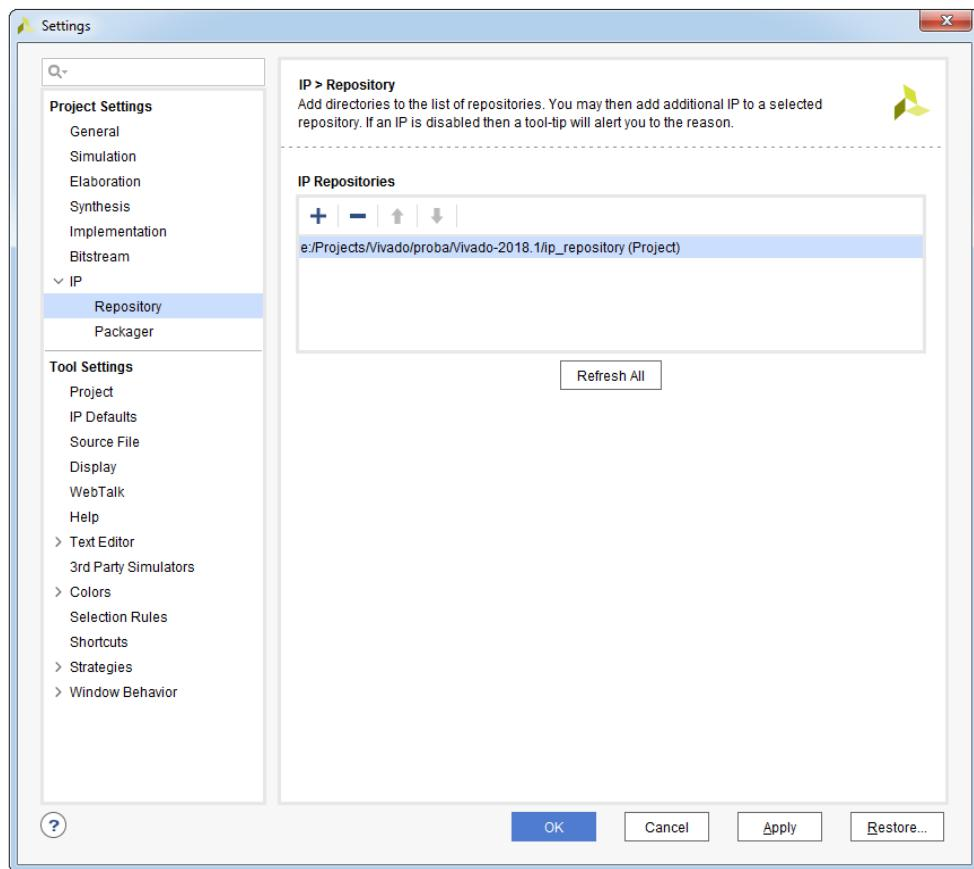

Figure 12.27: Repository Manager with selected ip_repository
37. In the **Repository** window, when **ip_repository** is added to the **IP Repositories** section, click **OK**, see Figure 12.27.